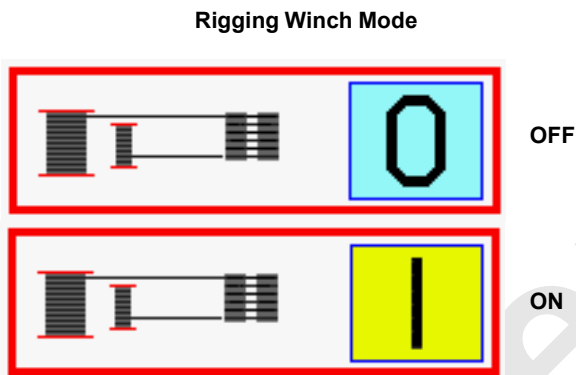

FIGURE 4-45
See Figure 4-45 and Figure 4-46 in the following procedure.
2. In **level 2**, use the select buttons to enter selected drum screen options. Select rigging winch data box (Figure 4-45).
2. In **level 2**, use the select buttons to enter selected drum options screen. Select rigging winch data box (Figure 4-45).